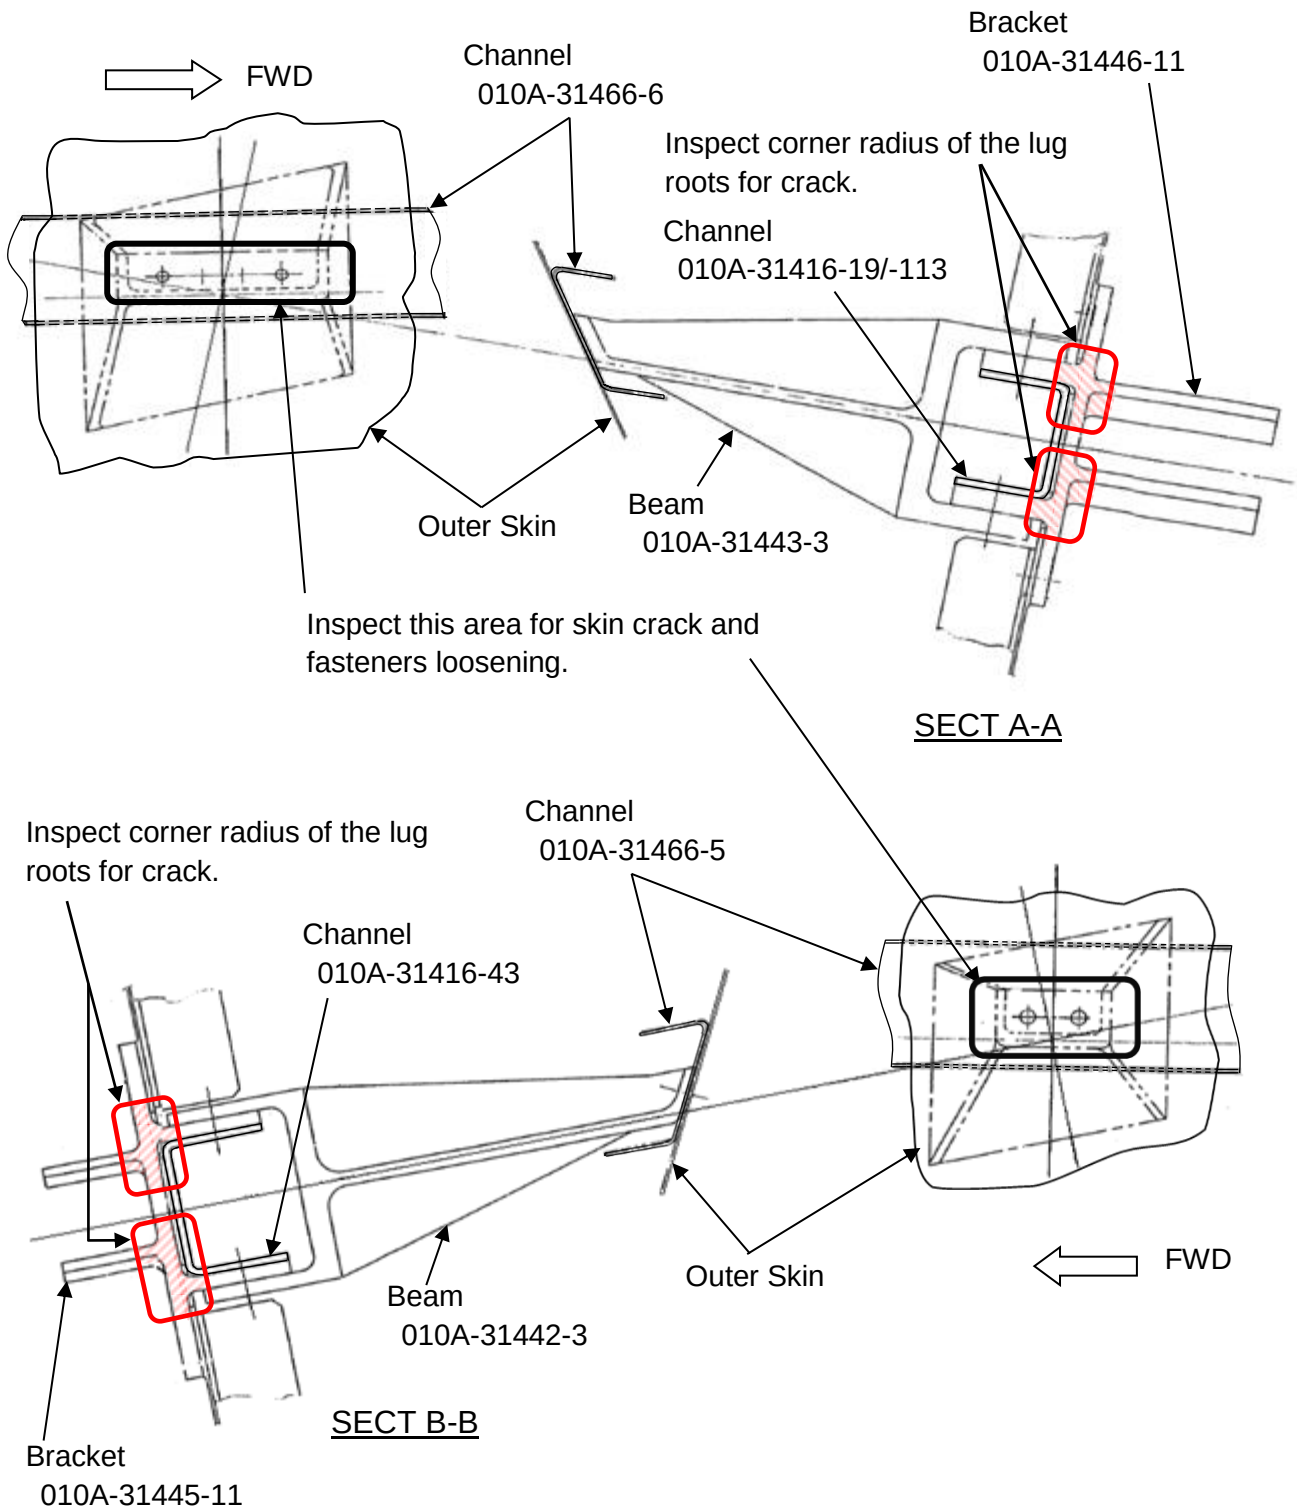

Figure 5: Drag Strut to Fuselage Bracket
- (2) Visually inspect Outer Skins around fasteners which are installed common to Outer Skin, Channel and Beam for crack and loosening fasteners in the area shown in Figure 5.
- (3) Visually inspect Channels (010A-31466-5/-6) between Outer Skin and Beam, and Channels (010A-31416-19 (up to S/N 323)/-113 (S/N 324 and up) and 010A-31416-43) attaching to outboard lugs of Brackets for crack and deformation shown in Figure 5.